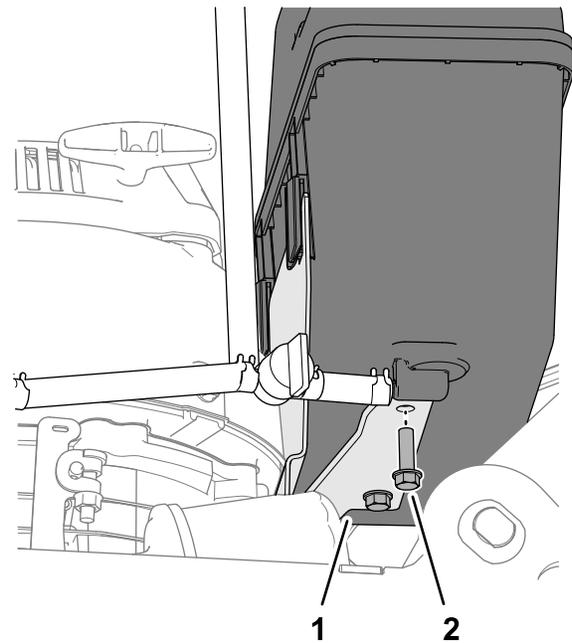

Figure 37
1. Remove the 2 flange-head bolts that secure the fuel tank to the tank-mounting bracket (Figure 37).